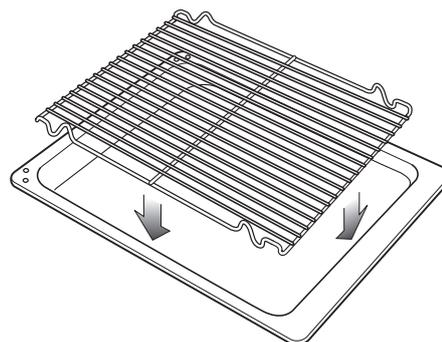

Fig. 3.10
- Introduce the grill-pan (tray + grid) in the oven (fig. 3.10) and insert it on the second level from the top (fig. 3.9).